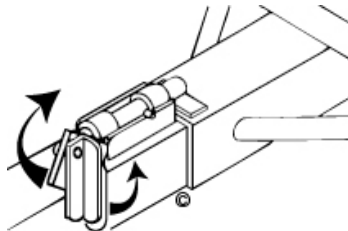

Figure 8
If you have a tow dolly with tilt platform loading ramps (Figure 8), tilt the wheel platform back for loading. Swing the bottom of the locking latch toward the coupler far enough to allow locking pin handle to be lifted. Swing the locking pin handle upward then pull locking pin towards the coupler as far as it will go. Wheel platform will tilt back to allow loading.
- ❑ If you have a tow dolly with tilt platform loading ramps (Figure 8), slide platform-locking pin back into lock position.
- ❑ If you have a tow dolly with tilt platform loading ramps (Figure 8), swing the locking pin handle upward then toward the coupler. This will allow the platform to tilt as you drive off the tow dolly.